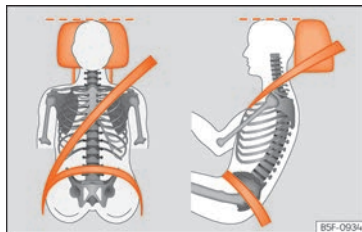

Fig. 4 Correct belt web and headrest positions
- Adjust the headrest so that its upper edge is at the same level as the top of your head, or as close as possible to the same level as the top of your head and under no circumstances below eye level. Keep the back of your neck as close as possible to the headrest »» **Fig. 4.**